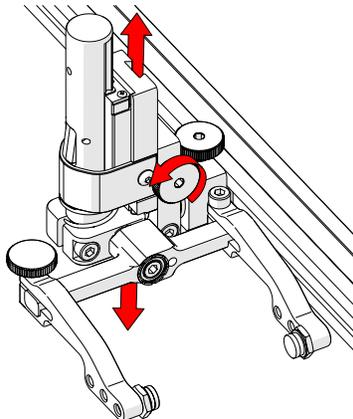

Fig. 124 - Vertical adjustment
2. The vertical adjustment knob allows the vertical probe holder height adjustment (Fig. 124).